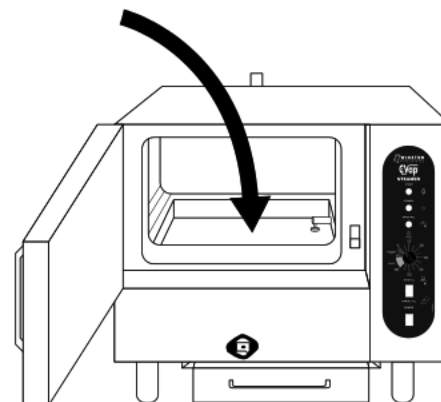

Figure 1
1. Prior to use, remove **Evaporator Cover** and fill **Evaporator** with at least 2.5 gallons of potable water (max. capacity is 3 gallons)(Figure 1). Replace **Evaporator Cover**. **Manually filling the steamer prior to the day's first use is strongly advised whether you are using manual or automatic water fill, to prevent low-water alarm from sounding.** During normal use, units using Automatic Water Fill will automatically add water as needed throughout the day. This is done in short bursts to avoid temperature loss. Because this feature uses short bursts, it will not add water to an empty **Evaporator** quickly enough to avoid the low-water alarm. Adding water manually for the day's first use will prevent alarm from sounding.